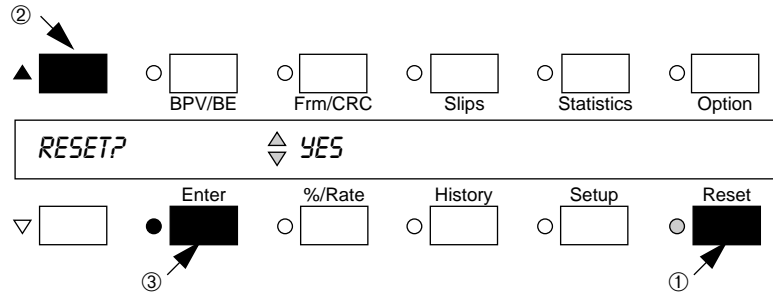

Figure 2-2 Error Monitor area of the front panel
- Press the Reset key (see ① in Figure 2-2).
- Press the Up arrow key (see ② in Figure 2-2).
- Press the Enter key (see ③ in Figure 2-2).